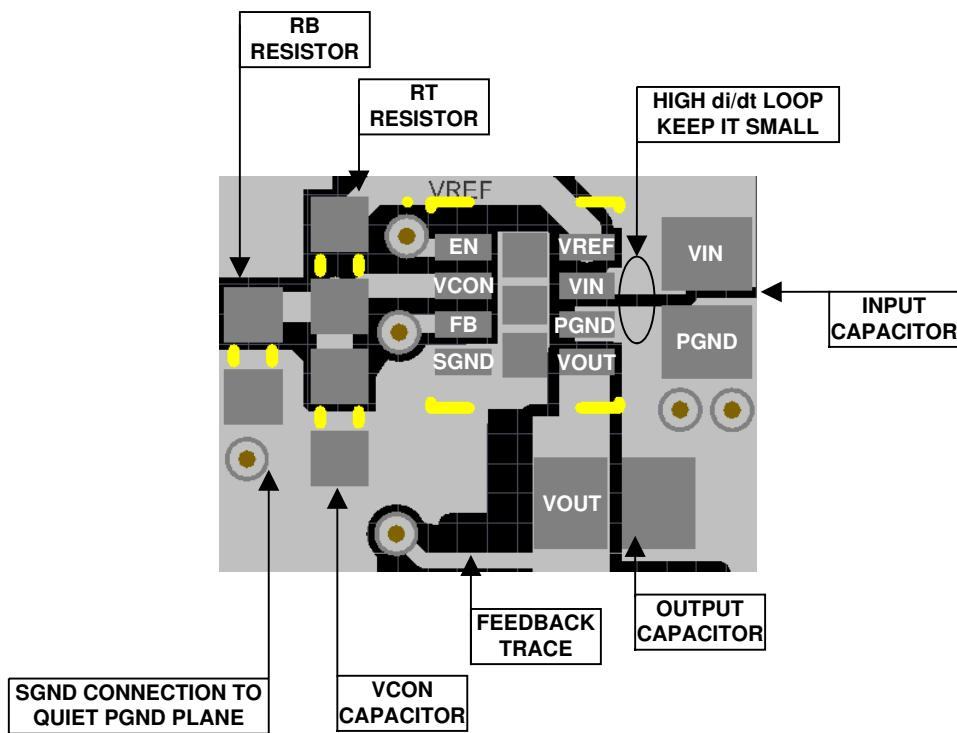

Figure 8-26. Example Top Layer Board Layout
The LMZ10501 integrates the inductor and simplifies the DC/DC converter board layout. Refer to the example layout in Figure 8-26. There are a few basic requirements to achieve a good LMZ10501 layout.
2. Place the V_{CON} filter capacitor C_{VC} and the R_B R_T resistive divider as close as possible to the V_{CON} and $SGND$ pins. The C_{VC} capacitor (not R_B) must be the component closer to the V_{CON} pin, as shown in Figure 8-26. This allows for better bypass of the control voltage set at V_{CON} .